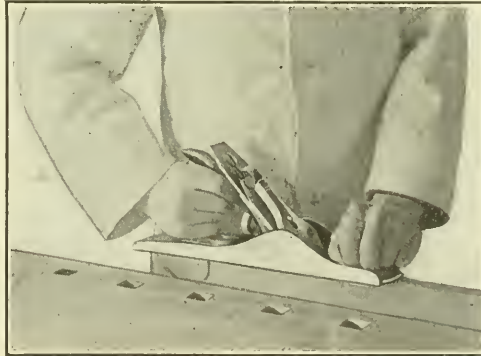

Fig. 127
33. Planing.—Before beginning to plane, see that all dirt or grit which might dull the tool is brushed from the surface. Fasten the wood low in the vise (Fig. 127), as you can plane better than if the surface is high, or lay it upon
the bench top against the stop, or fasten it between one of the stops and the tail vise (Fig. 214), as the case may require. If the piece is long and tends to drop at the unsupported end, fasten a hand-screw to it (Fig. 128). See that the plane is set right (see page 36). Place the wood so as to plane with the grain if possible. Stand at the rear end of the work and hold the plane as in Fig. 127.¹ Plane with the arms from